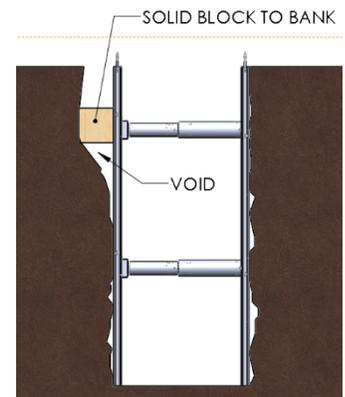

Figure 1: Voids in Excavation, See Note 5
5. Faces of excavations shall be vertical and there shall be contact with the soil at each cylinder, **see Figure 1.**